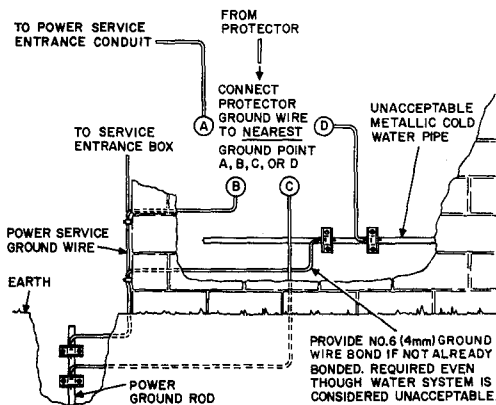
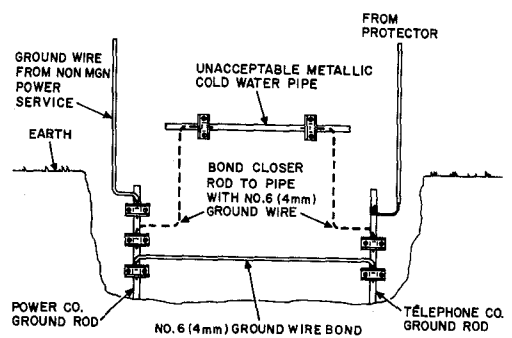

Fig. 48—Unacceptable Water System or Building Ground (Multigrounded Neutral Power System Grounded to Ground Rod)◆
Fig. 49—Unacceptable Water System or Building Ground (Nonmultigrounded Neutral Power System Grounded to Ground Rod)◆
- 6.06** Where the power is grounded to a ground rod and an acceptable water pipe or building ground does not exist, it is necessary to know if the power service is MGN (multigrounded neutral). This information should be obtained according to local instructions. Station protectors installed where an MGN power system is grounded to a ground rod should be grounded as shown in Fig. 48. Where a non-MGN power system is grounded to a ground rod, protectors should be grounded as shown in Fig. 49.